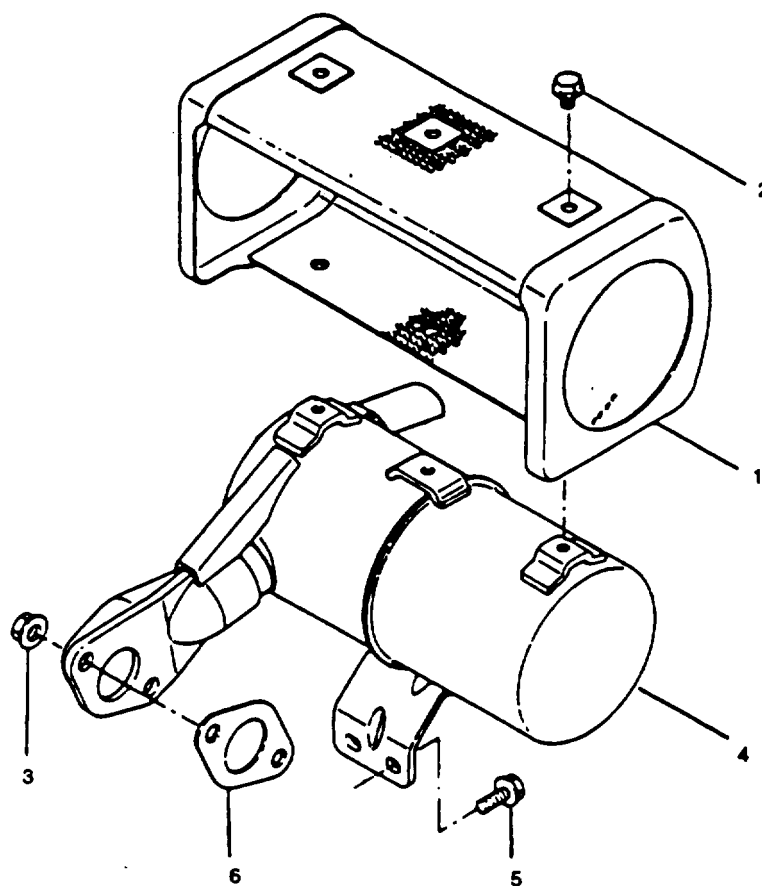

Figure 4-24. Exhaust System Assembly
- a. Removal. (Refer to Figure 4-24)